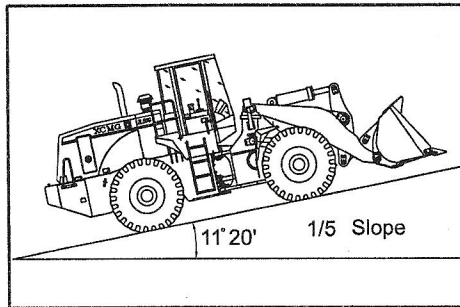

Fig. 05-33
- (1) Start up the engine, and drive the machine in straight line, and then have it climb a slope of 1/5, with its bucket unloaded (See Fig. 05-33).